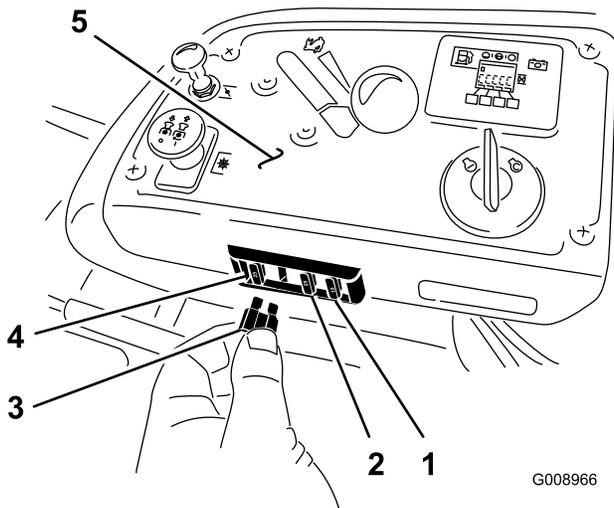

Figure 63
The fuses are located on right console next to the seat (Figure 63).
2. Install a new fuse (Figure 63).